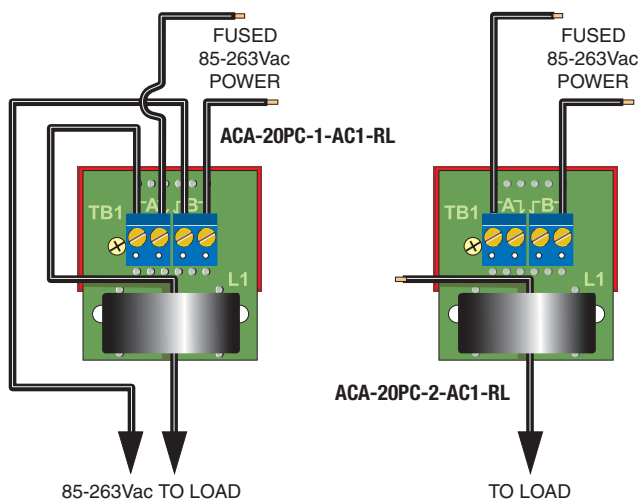

Figure 3. 2A and 20A, 85-264V AC-Powered Models With Auxilliary Load Connections
- ① The ACA-20PC-1-AC1-RL and ACA-20PC-2-AC1-RL have 4-position on-board terminal blocks. All other models have 2-position terminal blocks.
- ② Specified full-scale currents are those passing through the built-in CT's primary(load) circuit, over the frequency of 45-450Hz. The Overcurrent Rating is a continuous rating that applies to the measured ac load current. It does not apply to any circuitry external to the meter. Accuracy is guaranteed to the rated current.
- ③ For the ACA-20PC-2-AC1-RL, if the load is connected to the meter's on-board 4-position terminal block, the 20A full scale range requires 12AWG solid copper wire on all connections. If 14AWG solid copper wire is used, the current should be limited to 15A. See Figure 3.
- ④ All specified maximum power supply currents are steady-state values. AC-powered models can draw higher surges at initial turn-on.
- ⑤ Maximum reverse polarity protection on "DC1" models is -40Vdc.